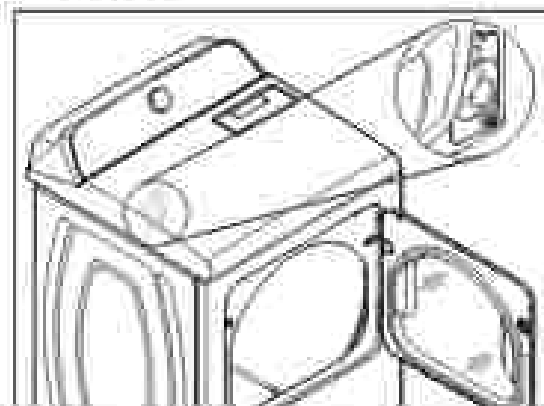

Figure 4
4. Remove the screw from the drum light lens (see Figure 4) and remove the lens (see Figure 5).